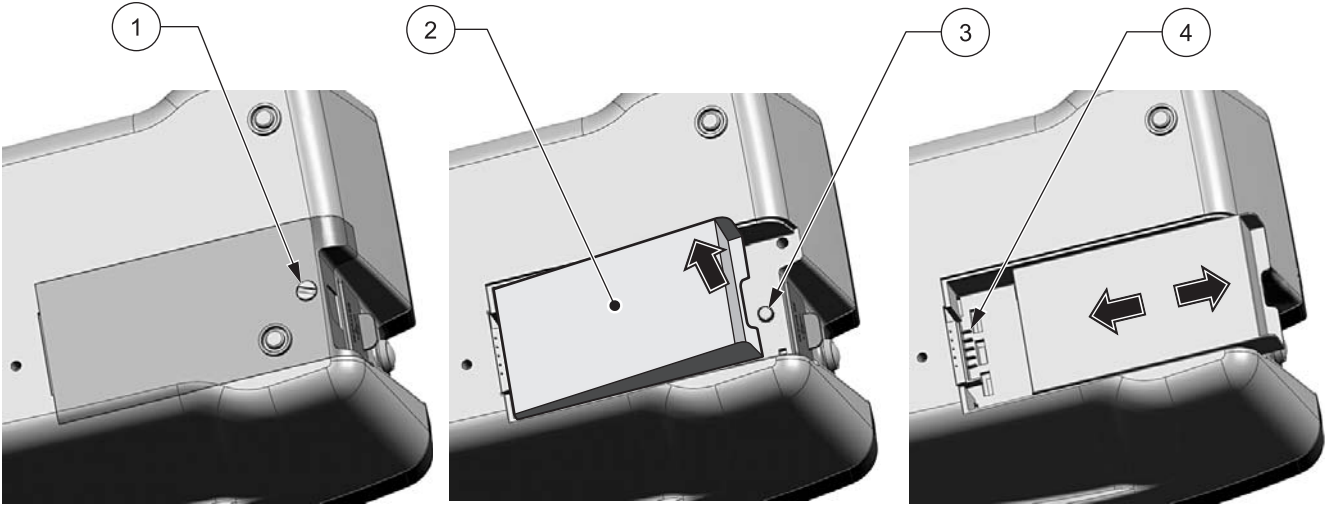

Figure 11 Battery Replacement
7. Remove the old battery by lifting the end over the cover screw insert and pulling to remove (Figure 11).
7. Remove the battery, if installed (Figure 11 on page 75).